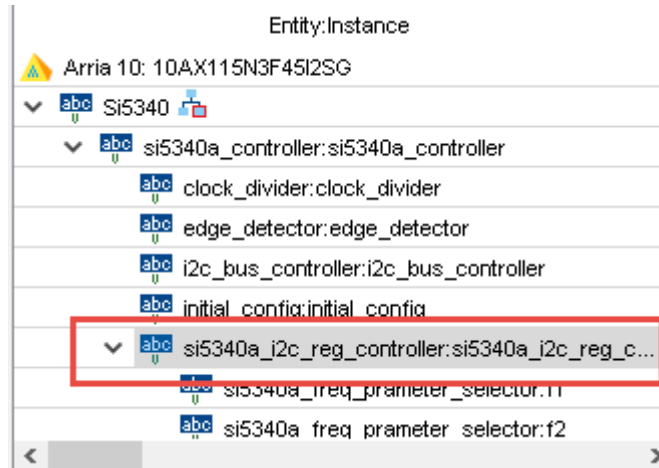

Figure 5-8 Sub-Module file "si5340a_i2c_reg_controller.v"
- Open Si5340 control IP sub-module “si5340a_i2c_reg_controller.v “ as shown in **Figure 5-8**, refer Design Report parameter to modify sub-module corresponding register value (See **Figure 5-9**).